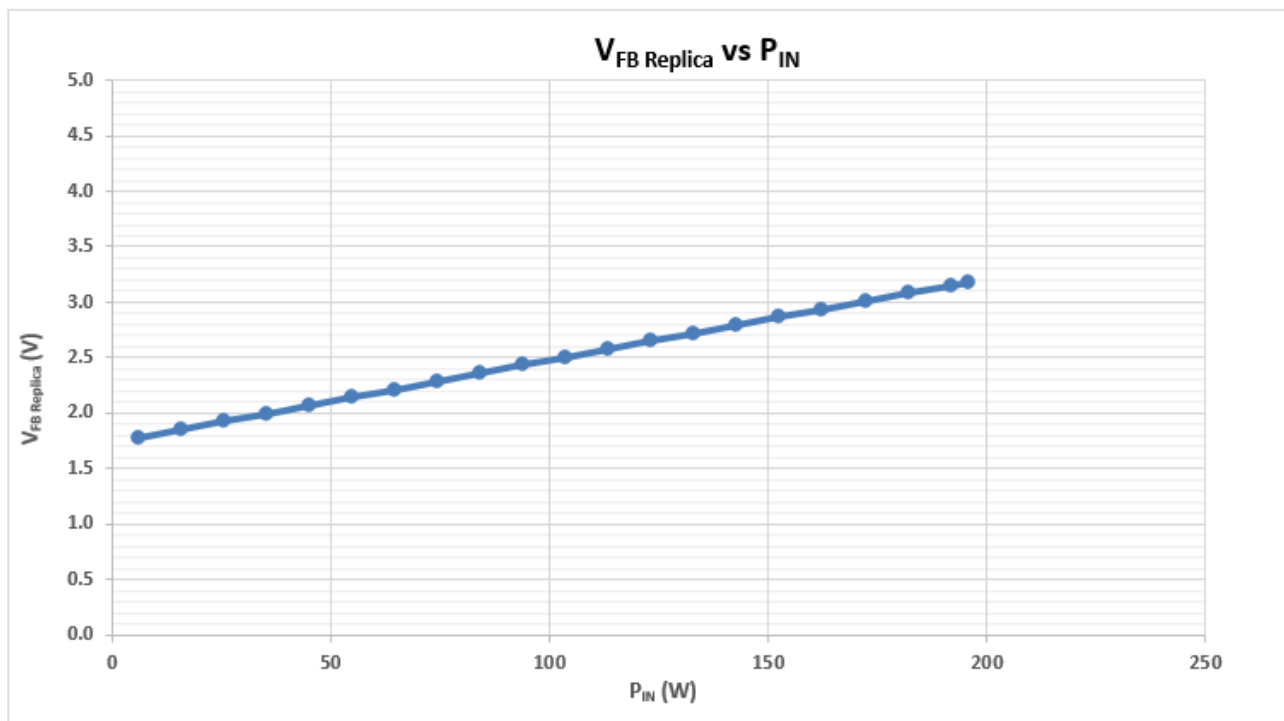

Figure 1-3. VFB Replica vs Pin Graph
- Plot FB Replica voltage vs Pin graph at different input power up to considering peak output power, not just up to full load output power, as shown in Figure 1-3.